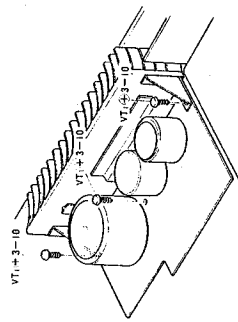

Fig. 6
- 1) Remove 3 screws. (Refer to Fig. 6)